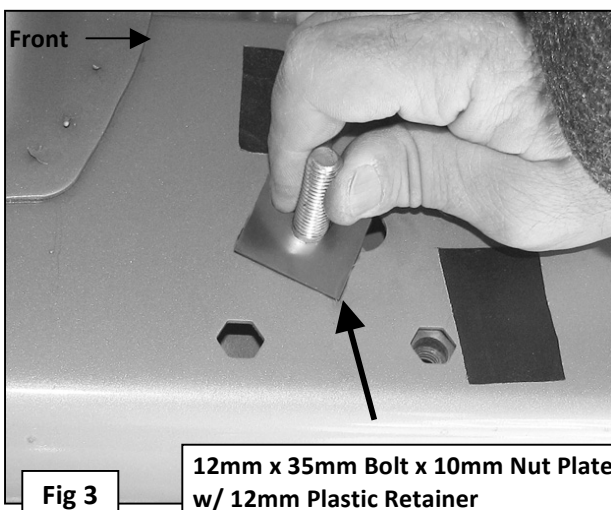

Fig 3
2. Starting at the driver side-front of the vehicle, remove the sealing tape covering the factory holes on the side of the inner panel, **(Figure 1)**. Partially thread (1) 12mm Plastic Retainer onto the threaded end of (1) 12mm Bolt and Nut Plate, **(Figure 2)**. Insert the Bolt and Nut Plate into the factory oval hole. Continue to thread the Plastic Retainer down the Bolt and Nut Plate until it is flush against the sheet metal, **(Figure 3)**. **NOTE:** When properly installed, the Plastic Retainer is designed to prevent the Bolt and Nut Plate from falling into the body cavity during installation.